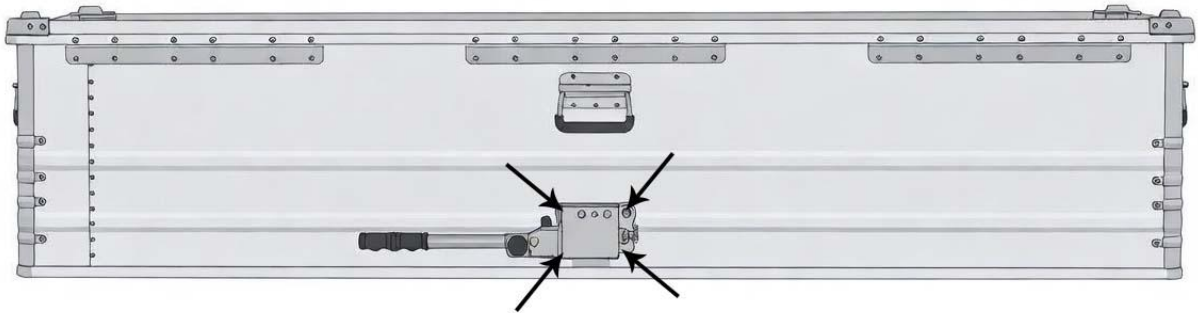

Figure 5: Unscrew the four bolts from the inside to release the QuickGrip from the SKiiBOX.
2. Locate the four bolts (M10) and unscrew these (figure 5).
1. Loosen the four M10 screws on the QuickGrip (see Figure 5).